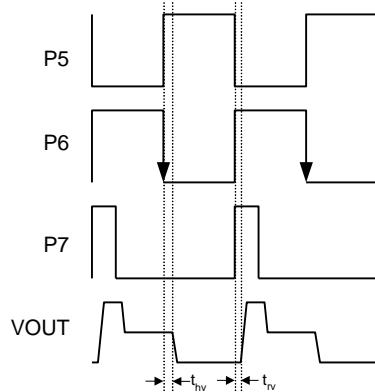
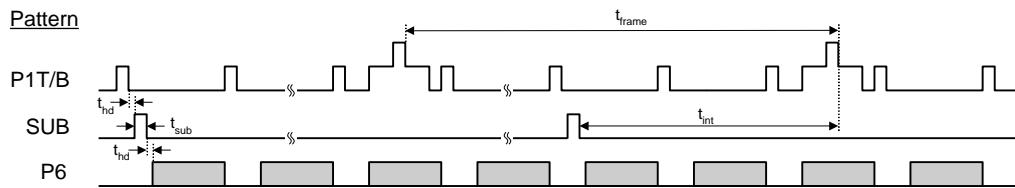
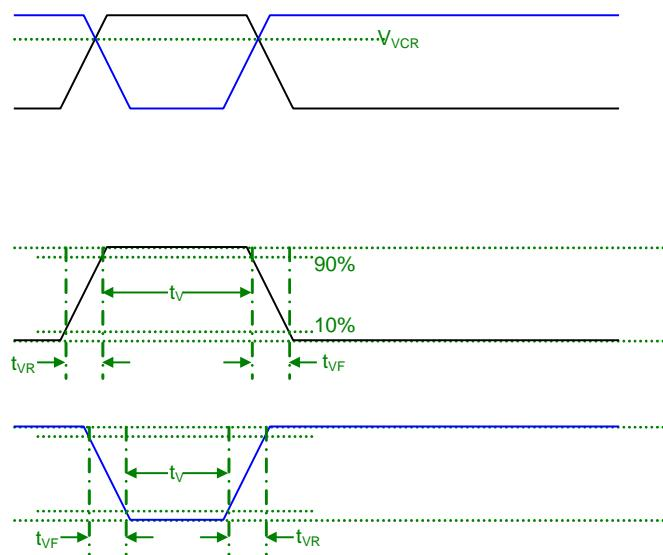

Figure 18: Pixel Timing Detail
Figure 19: Frame/Electronic Shutter Timing
Figure 20: VCCD Clock Rise Time, Fall Time and Edge Alignment
1. Refer to Figure 20: VCCD Clock Rise Time, Fall Time and Edge Alignment
3. Refer to timing diagrams as shown in Figure 16, Figure 17, Figure 18, Figure 19 and Figure 20